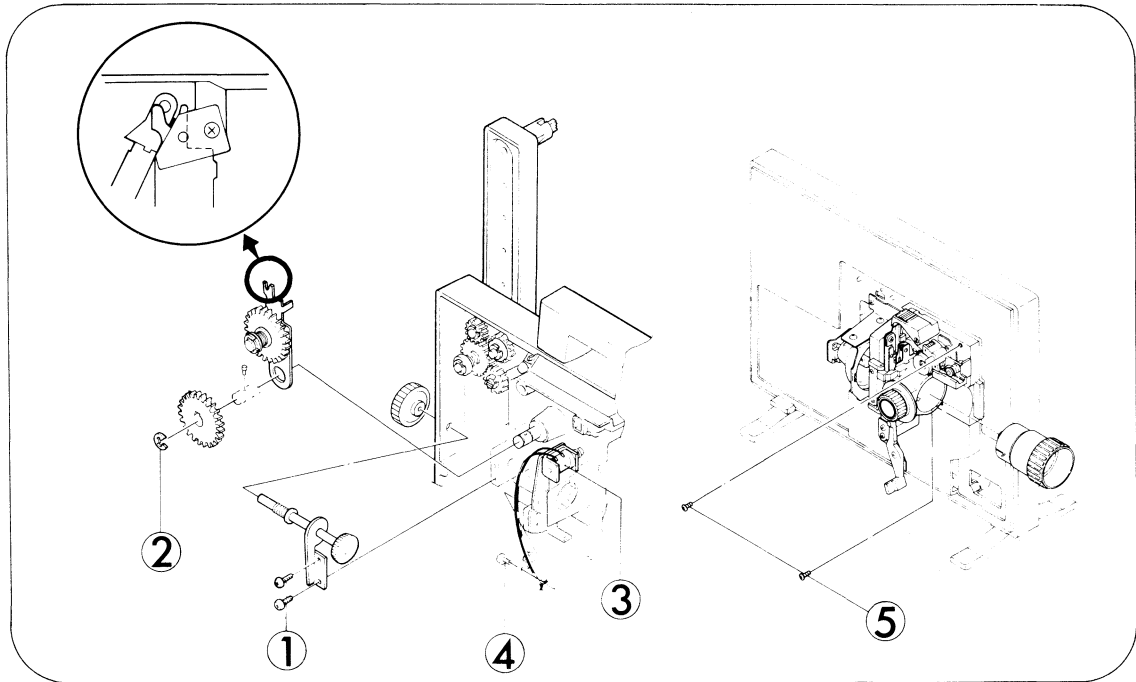

Fig. 13
### 1. MACHINE FRAME (Fig. 13)
3. Insert Changing holder to Sprocket shaft (1). To do this, join the "U" shaped hollow to Changing plate lock (1) as indicated in Fig.13.